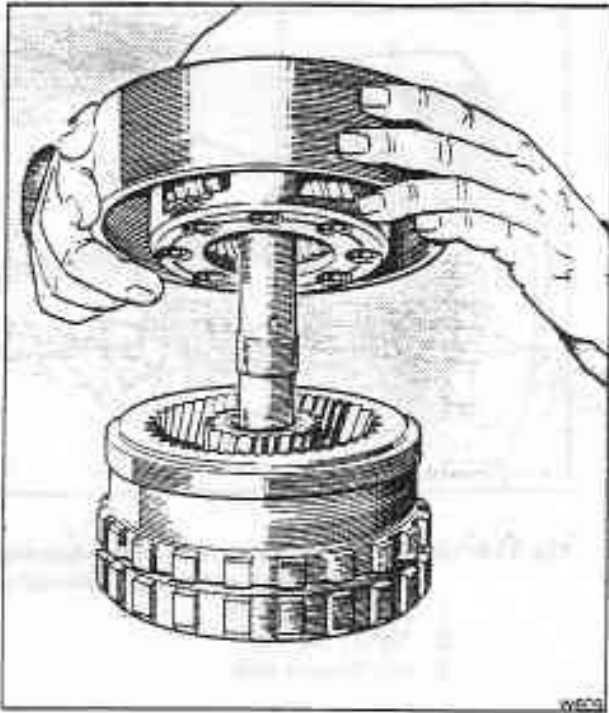

Fig. T19-17 Fitting the reaction carrier to the output carrier
19. Ensure that the reaction carrier pinion gears are adequately lubricated, then fit the reaction carrier onto the output carrier as shown in figure T19-17. Mesh the pinion gears with the front internal gear.